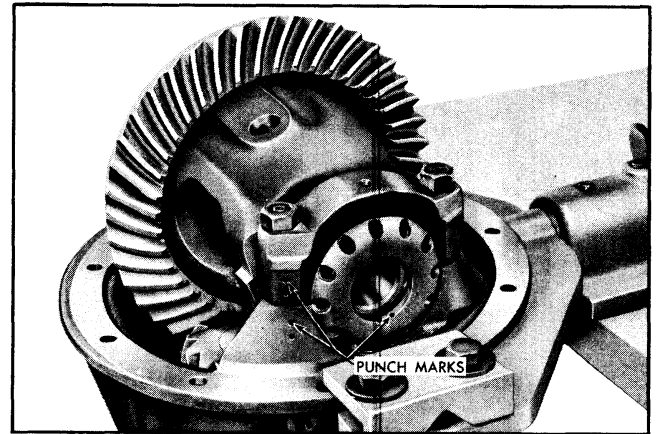

Fig. 4-35 Bearing Cap and Adjusting Nut Marked for Side Location
5. With differential assembly positioned in holding fixture J-6571, mark pedestal caps and side bearing adjusting nuts with punch, or other suitable tool, to distinguish right from left so they can be replaced on correct sides (Fig. 4-35).